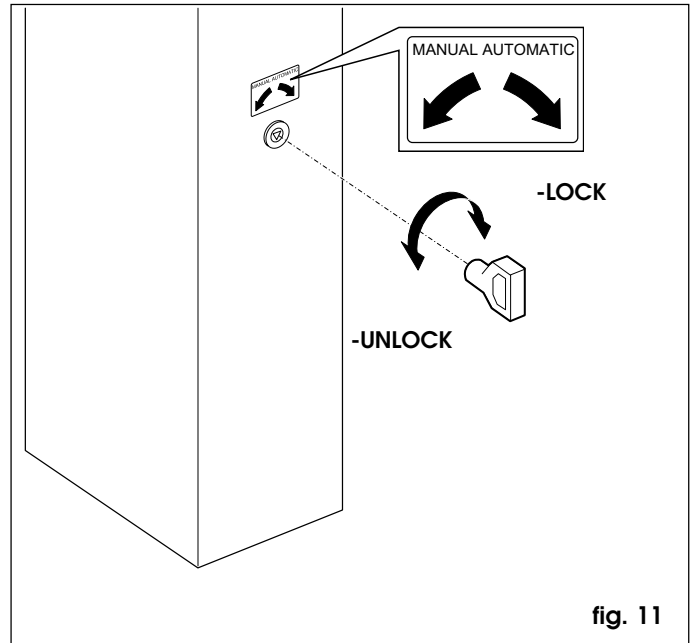

fig. 11
- Fit the standard triangular key (Fig.11) in the lock and turn it **anti-clockwise** through 1 turn.